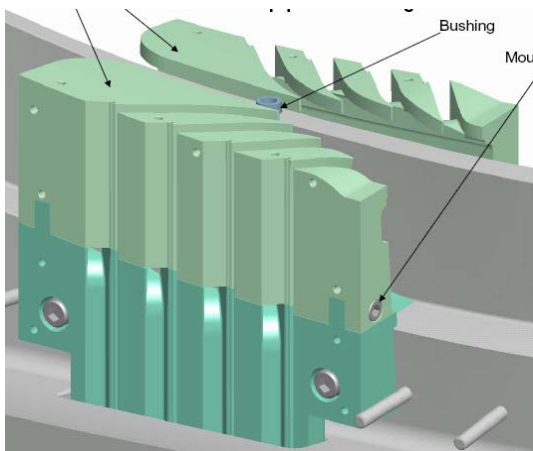

Figure 15- Upper Lead Blocks and Bushing
- 6.19.1.2 Install the upper lead blocks (sides A and B); tighten mounting hardware and install the top plate bushing. [**Figure 15- Upper Lead Blocks and Bushing**]